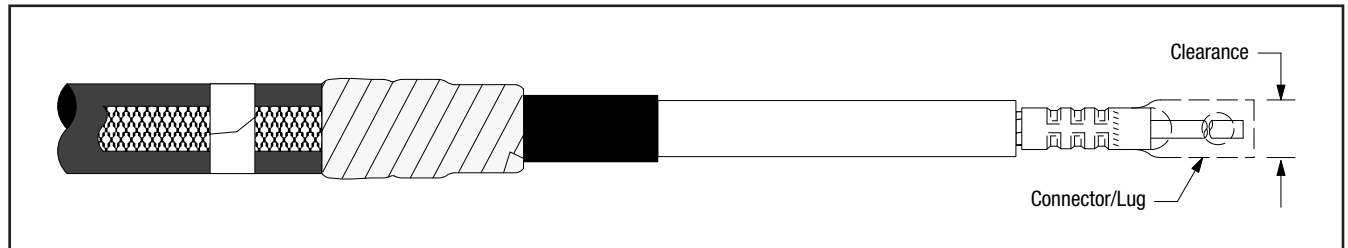

Figure 6
- 4.1 Check to insure 3M Cold Shrink QT-III Silicone Rubber Termination assembly fits over the selected lug or connector BEFORE installing the lug or connector.** If lug or connector (Figure 6) will not fit through the termination core, clean the insulation (per Step 5.0) and slide termination on cable before installing lug or connector. **DO NOT REMOVE CORE AT THIS TIME.**